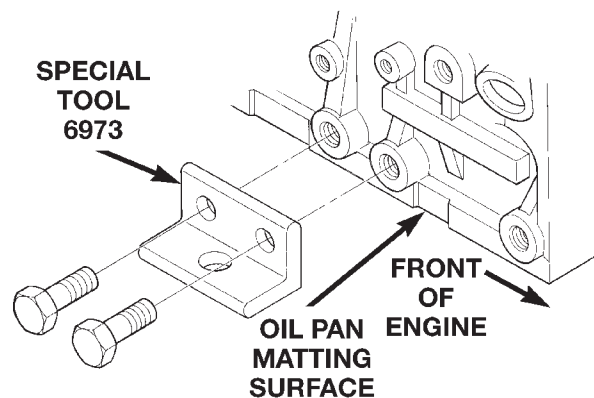

Fig. 30 Bracket for Cradle Post Support
- (11) Discharge Air Conditioning System. Refer to Group 24, Air Conditioning for procedure.
- (12) Hoist vehicle and remove right inner splash shield.
- (13) Remove accessory drive belts. Refer to Group 7, Cooling System for procedure.
- (14) Remove axle shafts. Refer to Group 2, Suspension and Driveshaft for procedure.
- (15) Disconnect exhaust pipe from manifold.
- (16) Remove front and rear engine mount brackets from the body.
- (17) Lower vehicle. Remove air cleaner assembly.
- (18) Remove power steering pump and reservoir; Set them aside.
- (19) Remove A/C compressor.
- (20) Remove ground straps to body.
- (21) Mount the bracket (Special Tool 6973) to the right side of the cylinder block (Fig. 30). Align the front adjustable post with the hole in the bracket.